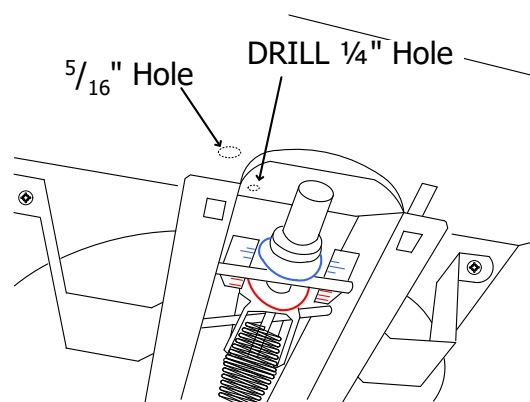

Fig. 2
3. Drill a 1/4" hole in the top of the scoop (see Fig. 2).